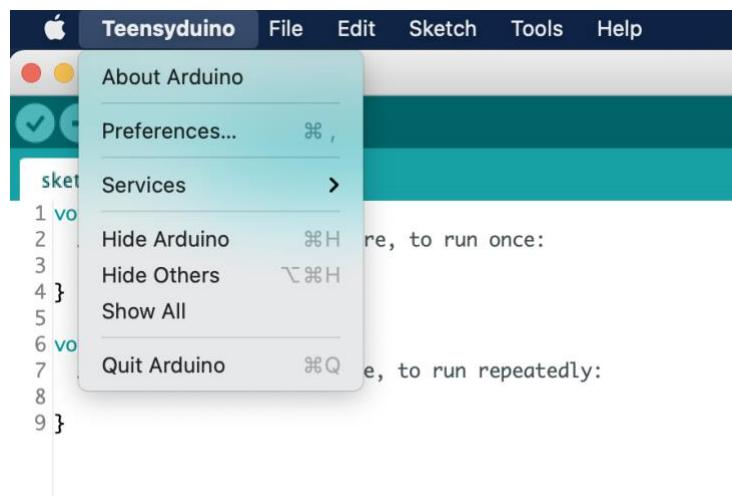
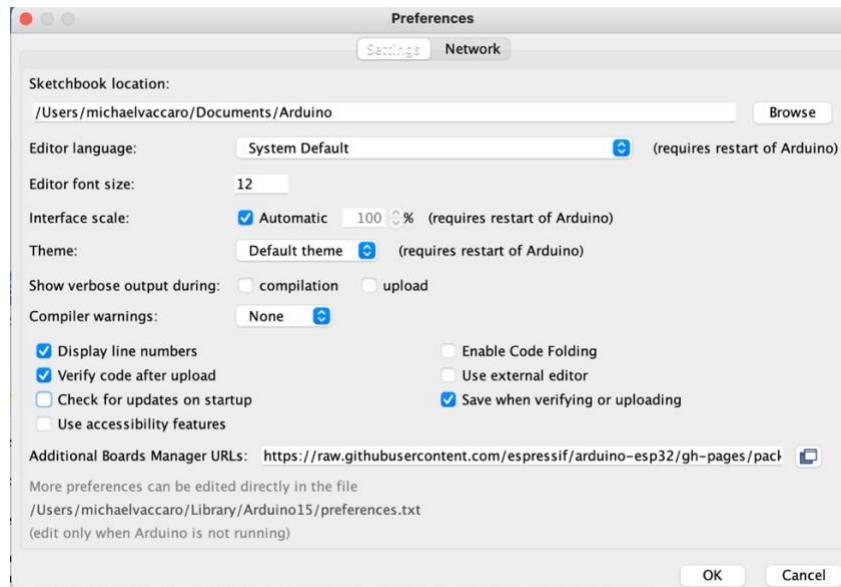

Figure 63. Open Preferences.
Figure 64. Arduino PREFERENCES window.
1. Open PREFERENCES (Figure 63 and Figure 64)